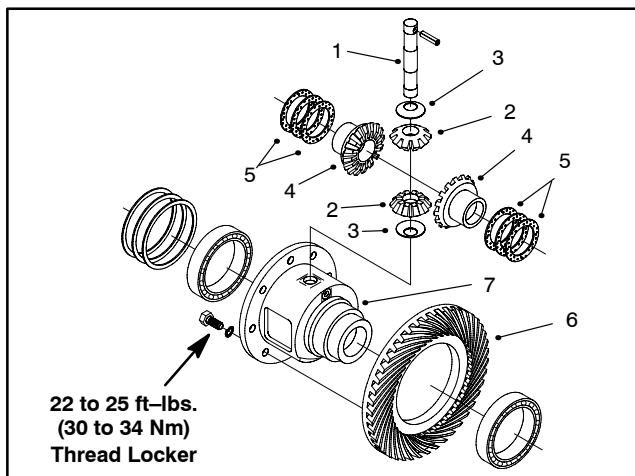

Figure 24
7. Remove the differential pinion shaft, pinion gears, and pinion washers. Remove the differential side gears and side gear shims. Remove the ring gear from the differential case only if the ring gear will be replaced (Fig. 24).